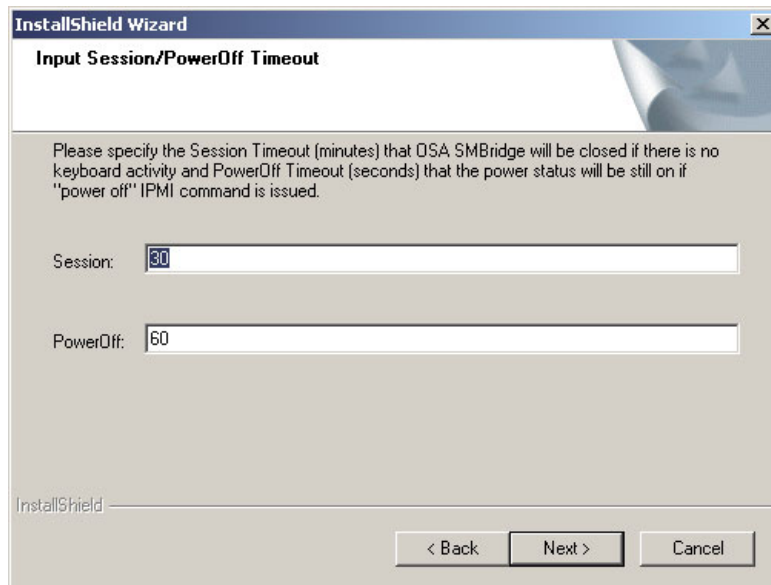

Figure 6-14 Session and power off timeout settings window
3. Next, you are asked to specify timeout values for telnet sessions (in minutes) and the power-off command (in seconds) (Figure 6-14 on page 198).